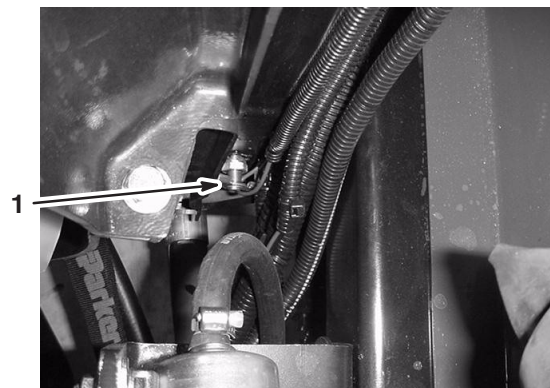

Figure 41
4. Open the drain (Fig. 41) and drain the coolant into the pan.